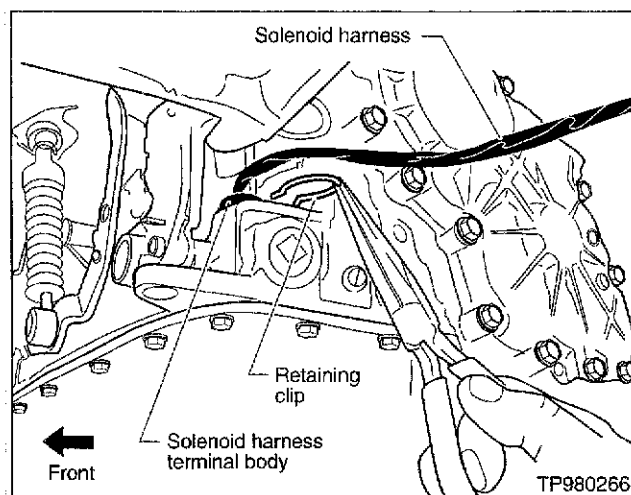

Figure 1
3. Remove the retaining clip from the solenoid harness terminal body (see Figure 1).